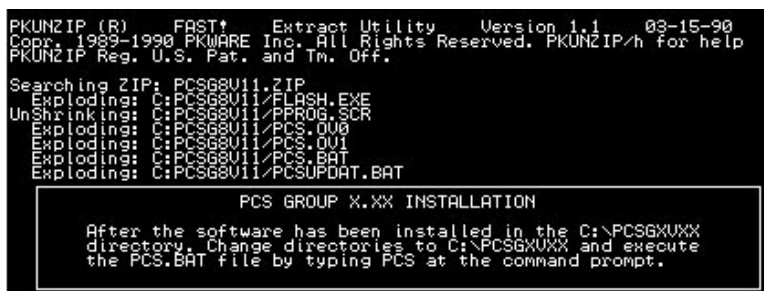

Figure 5 - Installation Screen
4. The Installation Screen will appear as the software is loaded. Figure 5 provides an example of a PCS Update installation. A directory is created and named XXXGXVXX (where XXX is the name of the radio, GX is the Group number of the software and VXX is the version number of the software). The Software is decompressed and loaded into this directory.
5. Change to the destination drive and directory created and shown in the Installation Screen (see Figure 5). Following the screen prompts, execute the batch file by typing: